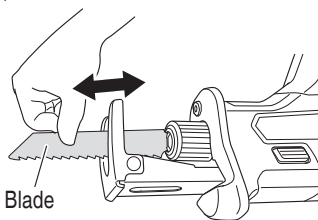

Fig. 9
- (3) Pull the back of the saw blade two or three times by hand and check that the blade is securely mounted. (Fig. 9)